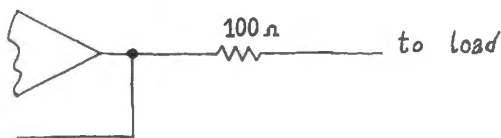

Figure 9L.6 Series R can take shifted point outside feedback loop.
- **Series R :** take the load outside the feedback loop. Put a 100 Ω to 220 Ω resistor in *series* with the BNC cable, and *outside* the feedback loop, as in Fig. 9L.6. See if this stabilizes the amp.